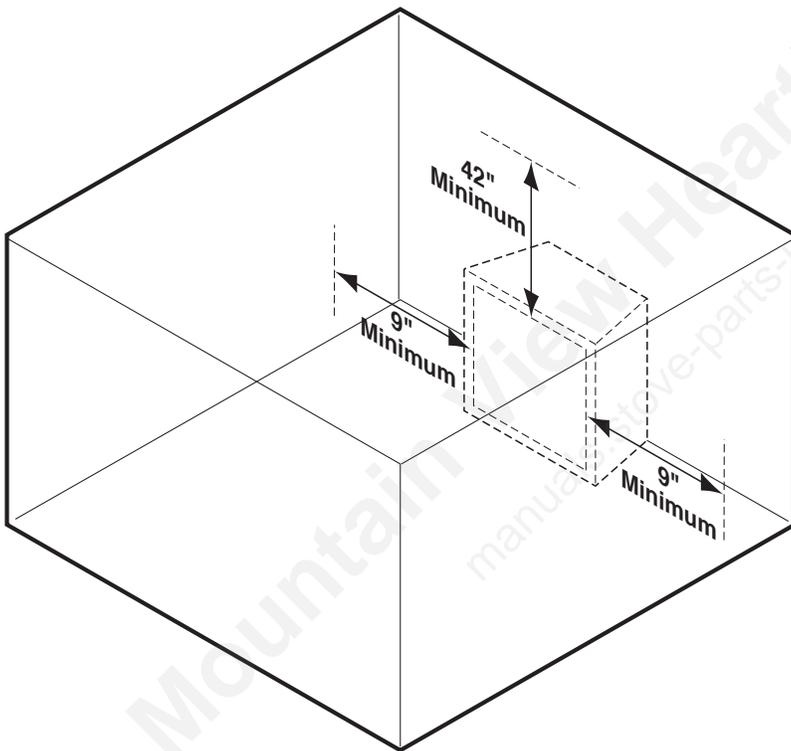

Figure 19 - Clearances and Height Requirements for 24VFSC/24DBXC/VFS32
1. **Sidewall Clearances** — The clearance from the inside of the appliance to any combustible adjacent wall should not be less than 9" for the 24DBXC/24VFSC and 32VFSC. See *Figure 19*.
2. **Ceiling Clearance** — The ceiling must be at least 42" from the top of the firebox opening. See *Figures 19 and 20*.
WARNING The dimensions shown in *Figures 19 and 20* are minimum clearances to maintain in installing this heater. Left and right clearances are determined when facing the front of the heater.